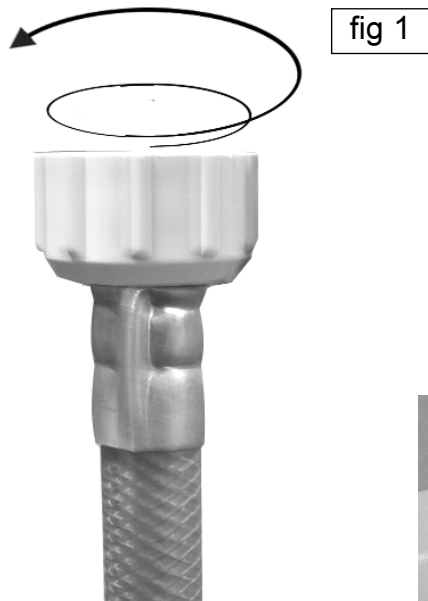

fig 1
- 3.2.3 Use PTFE tape to seal the inlet hose to the tap, by wrapping the PTFE around the thread on the tap nozzle and screwing the hose inlet on securely (fig 1).